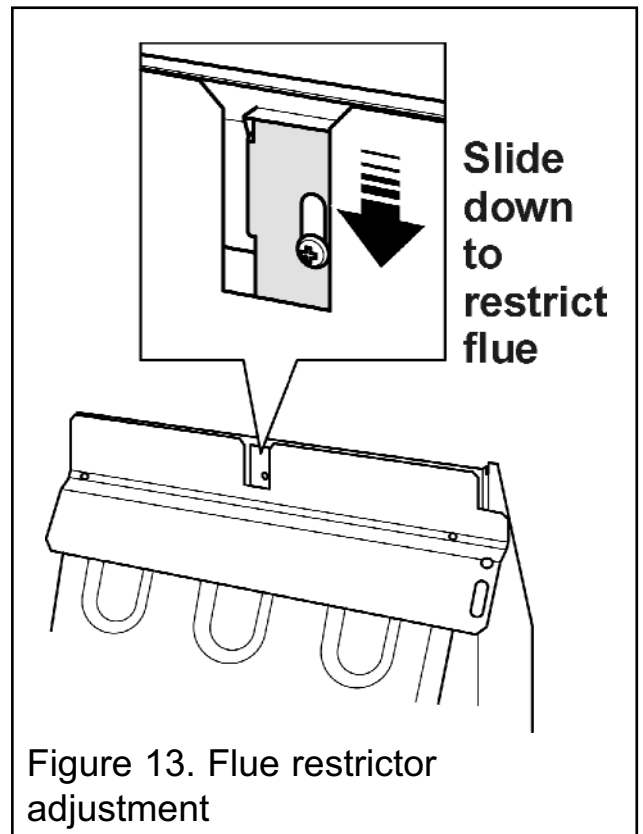

Figure 13. Flue restrictor adjustment
(See figure 13).
1. Loosen the screw situated behind the cut-out in the black upper heat shield. Do not fully remove the screw (See figure 13).